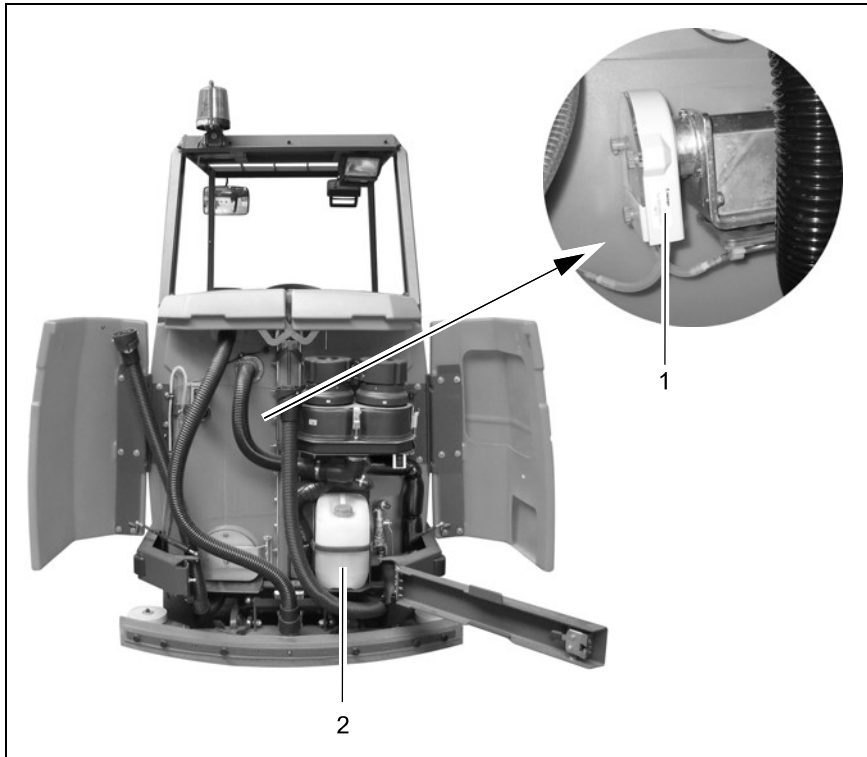

Fig. 17
- **Chemical dosing system (Fig. 17/1) (7564.02)**
The chemical dosing system adds a chemical cleaning agent to the fresh water. The chemical cleaning agent is in a canister (Fig. 17/2) and is not part of the scope of delivery of the chemical dosing system.